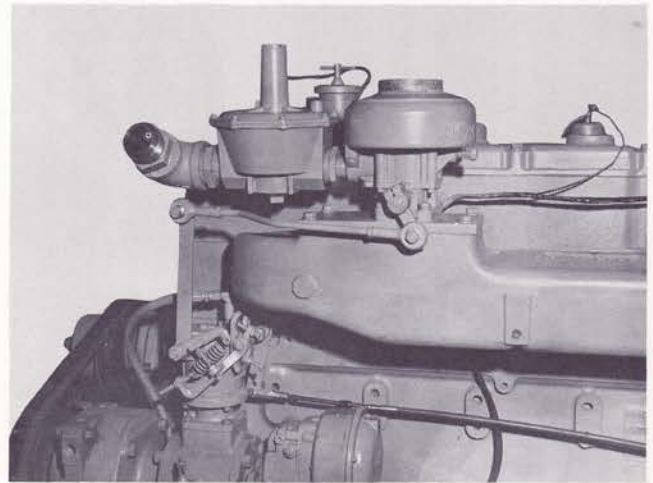

Fig. 4-7. Carburetor linkage
4. Remove throttle linkage from carburetor. Fig. 4-7.